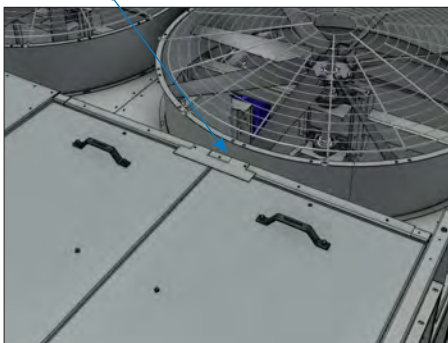

Figure 7. Shipping Retainer
- If accessing the hot water basin for the first time, remove the hot water basin shipping retainers. Discard the hot water basin shipping retainers (**Figure 7**).